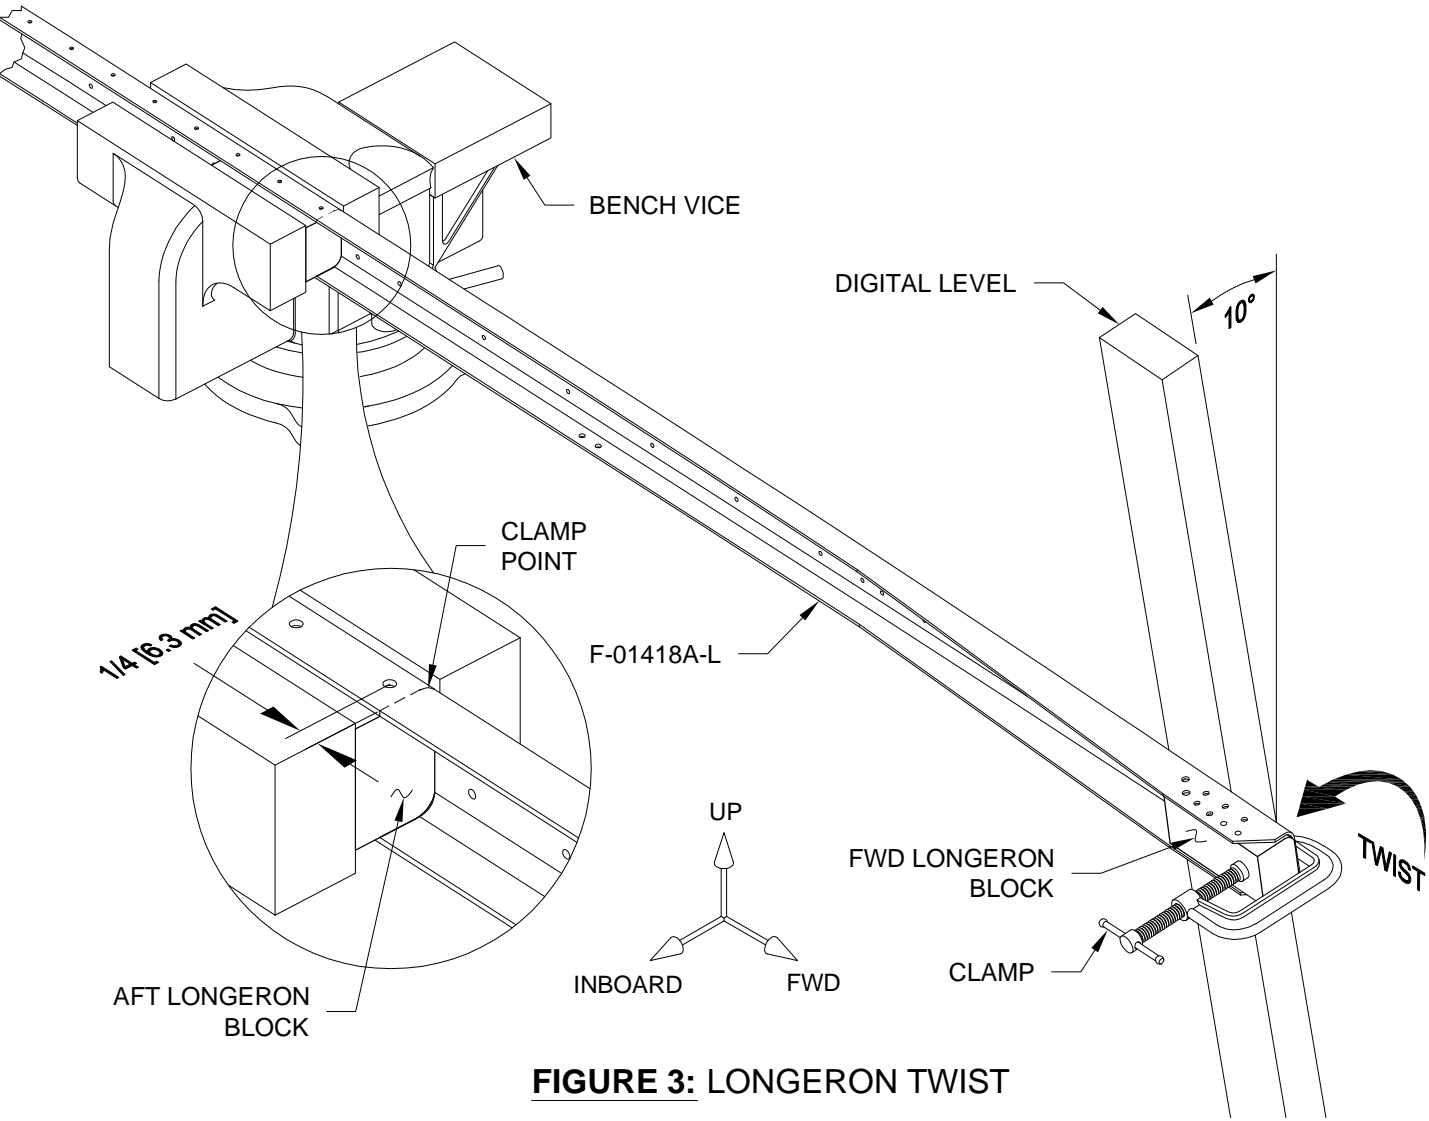

FIGURE 3: LONGERON TWIST
Step 4: Clamp the Longerons Blocks to the F-01418A-L Longerons as shown in Figure 3. Note the location of the forward edge of the Aft Longerons Block, this is the aft most point where twist in the longeron will occur.
Step 5: Use a digital level to obtain the initial angle for measuring the twist in the F-01418A-L Longerons. Twist the longerons to obtain a 10° degree permanent twist as shown in Figure 3.